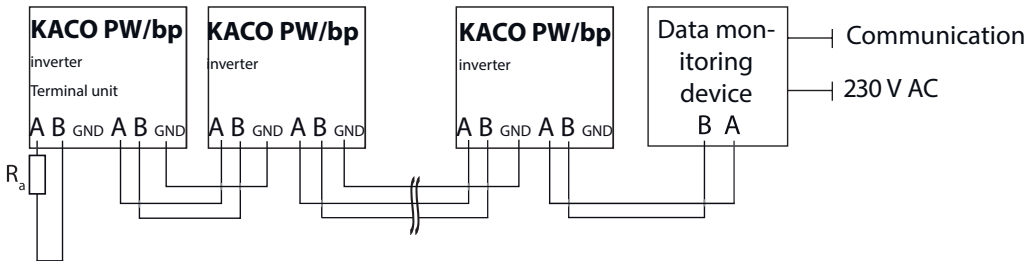

Figure 23: RS485 interface wiring diagram
- GND with GND (see Figure 23 on page 26)